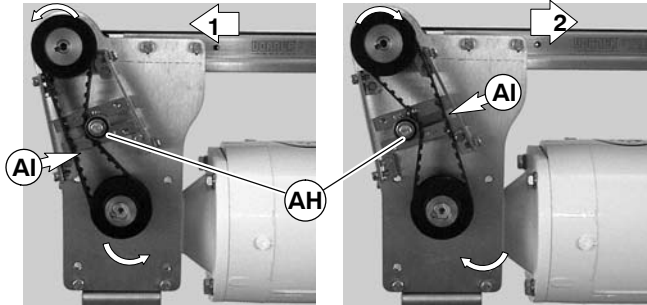

Figure 27
- Depending on conveyor belt travel (1 or 2 of Figure 27), locate timing belt tensioner (AH) as shown. Tension timing belt to obtain 1/8" (3 mm) deflection for 1 lb (4.3 N) of force at timing belt mid-point (AI). Tighten tensioner to 38 ft-lb (51 Nm).